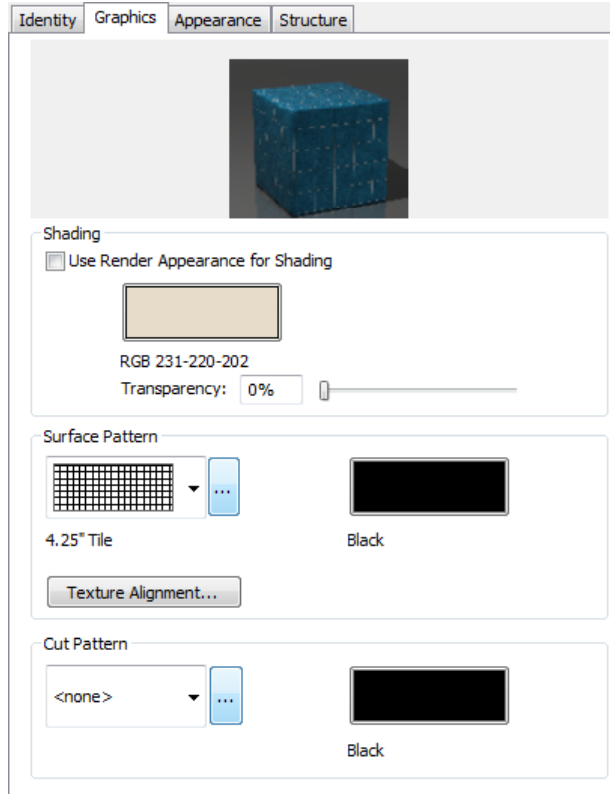

FIGURE 4-3.18 Materials dialog; Graphics tab
67. Set the *Cut Pattern* for the tile to **None** (Figure 4-3.18).